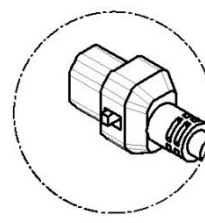

Fig. 7
Move switch to "OFF" (O) position. Unplug the unit when not used for a long time. To release the cord connector, pull back the red lock on the connector side (Fig. 7).